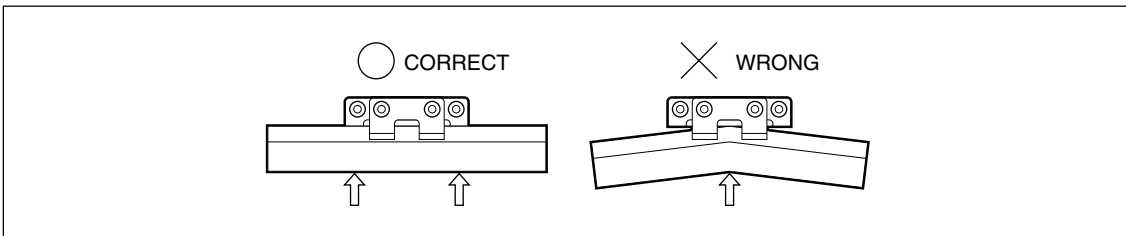

**Fig. 3-12**
- 5 Leave the scale in the condition of Fig. 3-12 for one hour or more until the scale temperature stabilizes.